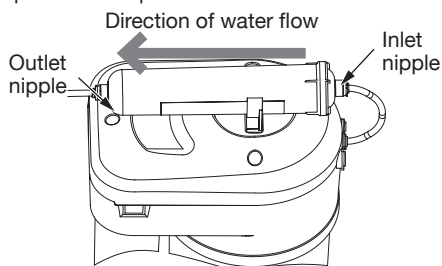

Figure 12
Replacing the conditioning cartridge (fig. 12):
- Disconnect the JG tube from the inlet and outlet nipples (fig. 12). For this purpose please remove the retaining clip from under the plastic sleeve, press the end of the plastic sleeve and pull out the tube.